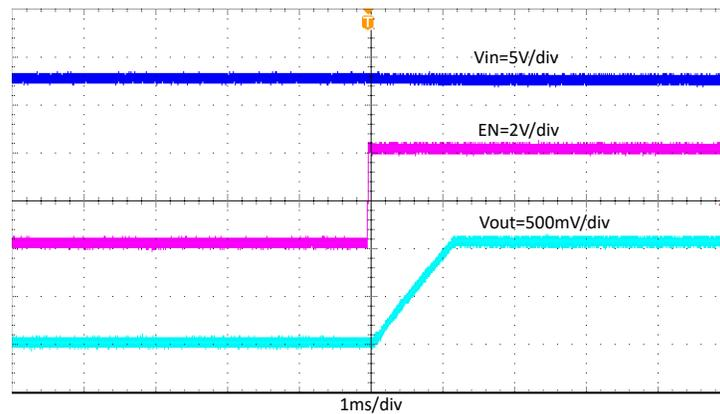

Figure 4-10. TPS565242EVM Start-Up Relative to EN
Figure 4-10 shows the TPS565242EVM start-up waveform relative to enable (EN). Load = 5 A